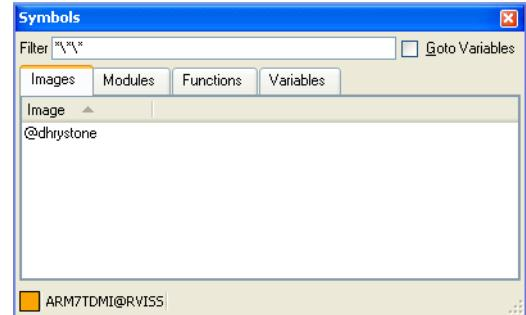

Figure 8-4 Symbols view
1. Select **Symbols** from the **View** menu to display the Symbols view. Figure 8-4 shows an example. If you have loaded multiple images to the target, then all the images are listed.